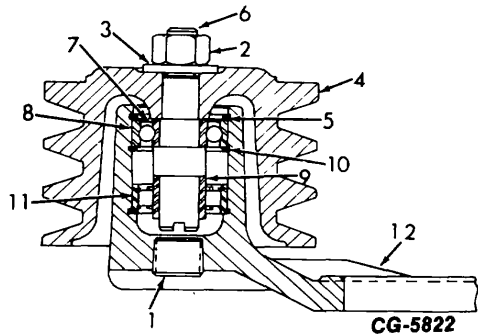

Figure 39. - Fan Idler Assembly with Front Ball Bearing and Rear Roller Bearing
5. Install inner snap ring (10, Fig. 39).
6. Press bearing (8, Fig. 39) on shaft until it is against the shoulder as shown in Figure 40. Apply force to inner race only. When installing the bearing, be sure its seal faces the threaded end of the shaft.
8. Install outer snap ring (5, Fig. 39).
12. Install washer (3, Fig. 39) and nut (2).
15. Install plug (1, Fig. 39), into bracket.